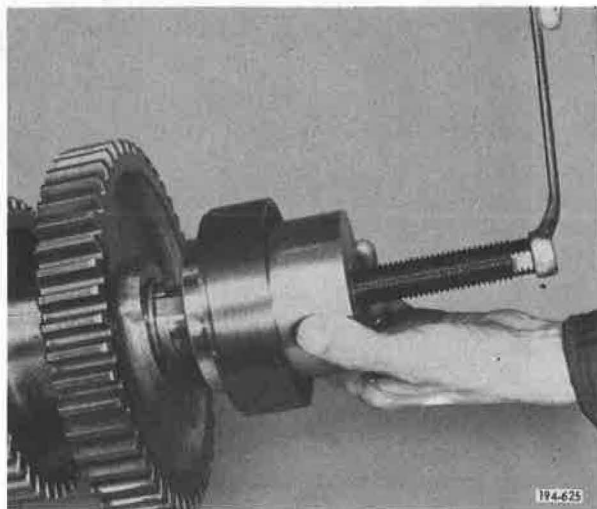

Figure 5-754. Removing Bearing
2. Remove front countershaft front bearing using tool S593C. See **Figure 5-754**.